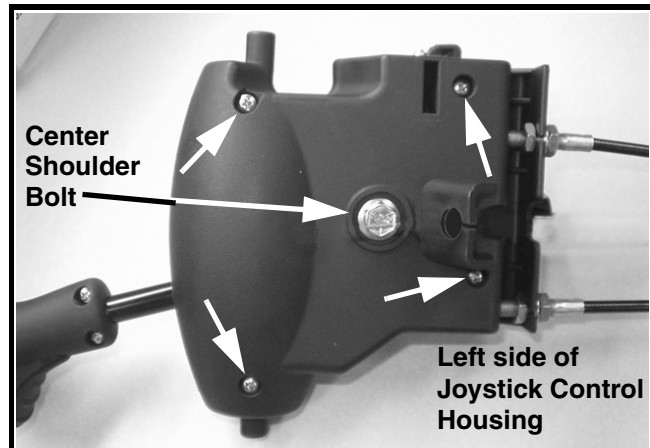

FIGURE 7
18. Remove the four (4) screws from on the left side of the joystick control housing. See Figure 7.
20. With the joystick control assembly positioned as shown in Figure 7, carefully separate the left half of the control housing from the right half making sure that the bolt and the chute deflector pulley stay with the left